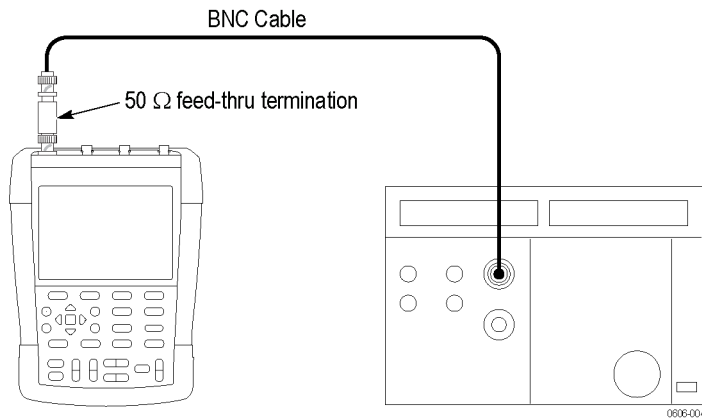

Figure 11: Input LF-HF gain test setup
5. Connect the instrument to the 5500A SCOPE output as shown. (See Figure 11 on page 28.)
1. Connect the instrument to the 5500A as shown. (See Figure 11.)